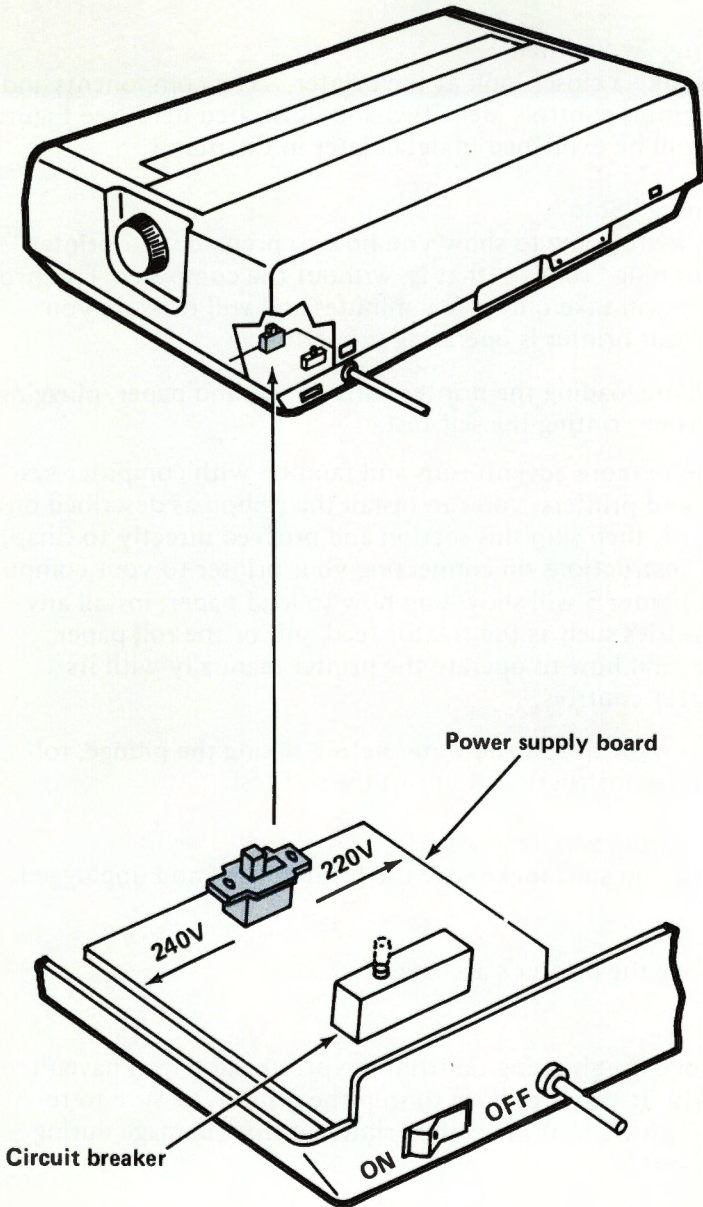

Figure 1-4
2. Locate the Voltage Select Switch on the power circuit board directly behind the power cord (see Figure 1-4).